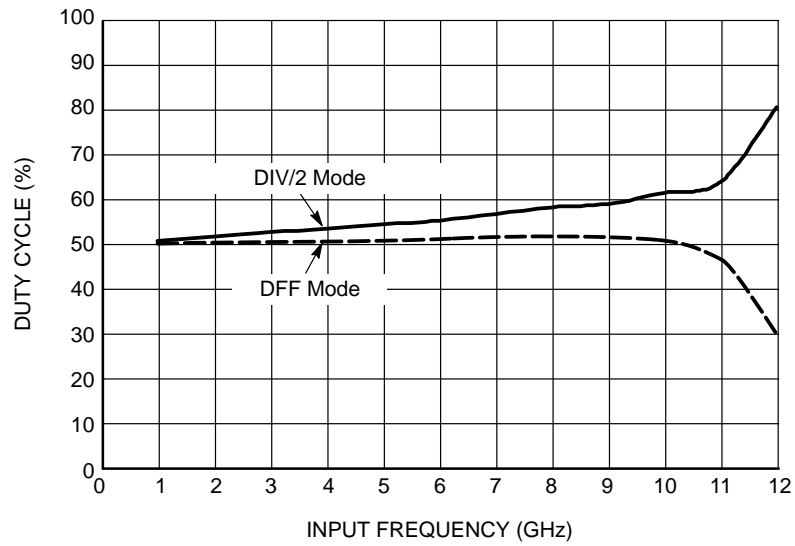

Figure 10. Duty Cycle % vs. Input Frequency (f_{in})
30. See Figure 10. Duty Cycle % vs. Frequency.
34. See Figure 10. Duty Cycle % vs. Frequency.